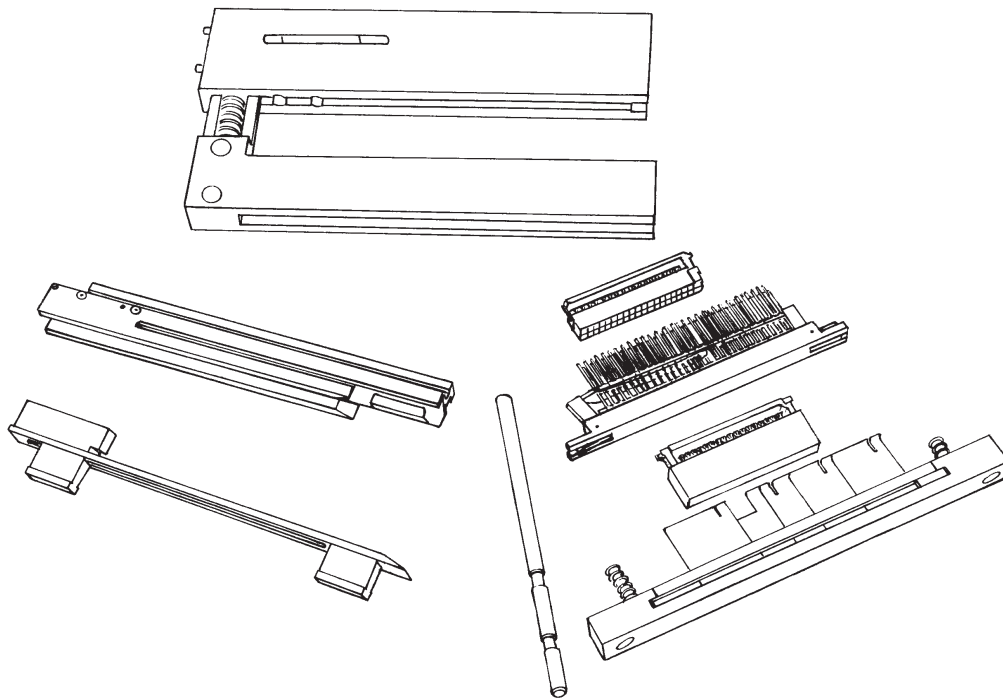

Figure 12
4. Change the connector modules to match connector orientation, size, or style as needed by referring to Figure 12 and by doing the following: